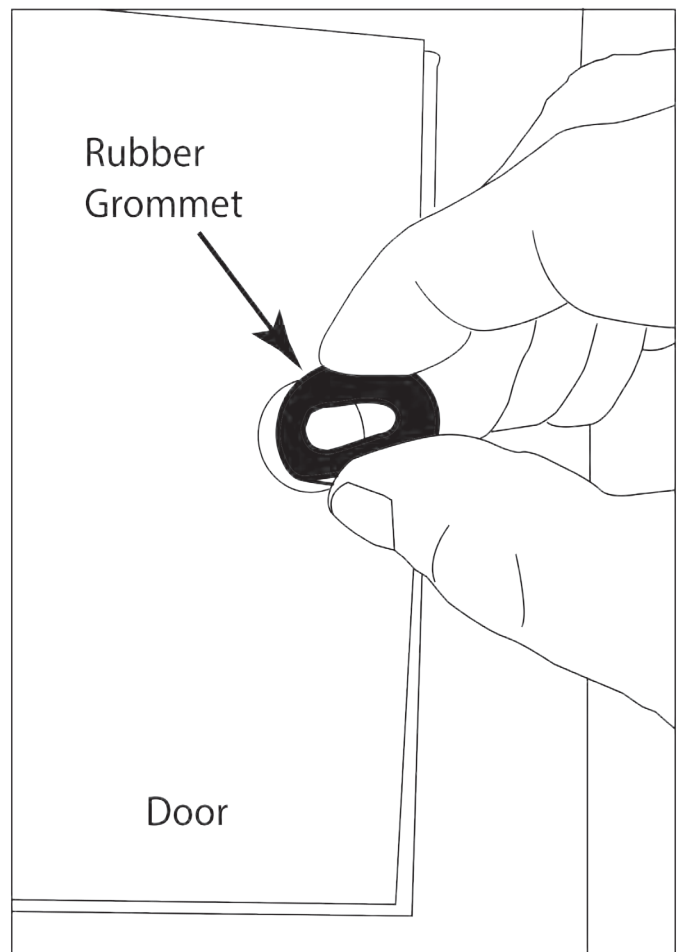

Fig. 10 Inserting grommet into door.
Step 3: Locate the black rubber grommet and squeeze it carefully into the hole, working it until the grommet fits evenly around the hole. See Fig. 10.